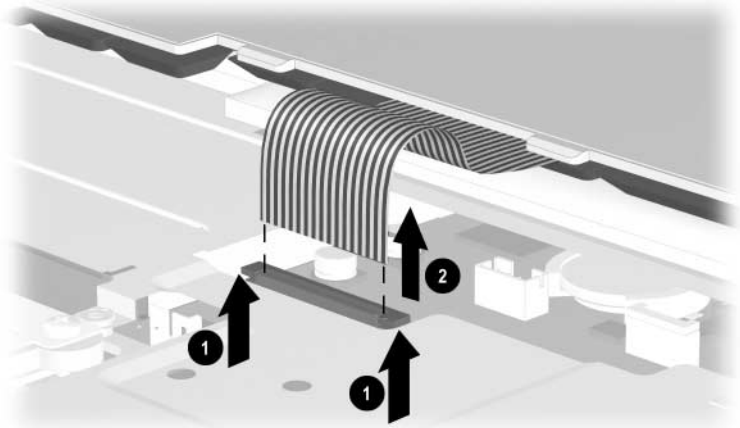

Figure 5-17. Removing the Keyboard
8. Release the ZIF connector ❶ to which the keyboard cable is connected and disconnect the keyboard cable ❷ from the system board (Figure 5-17).